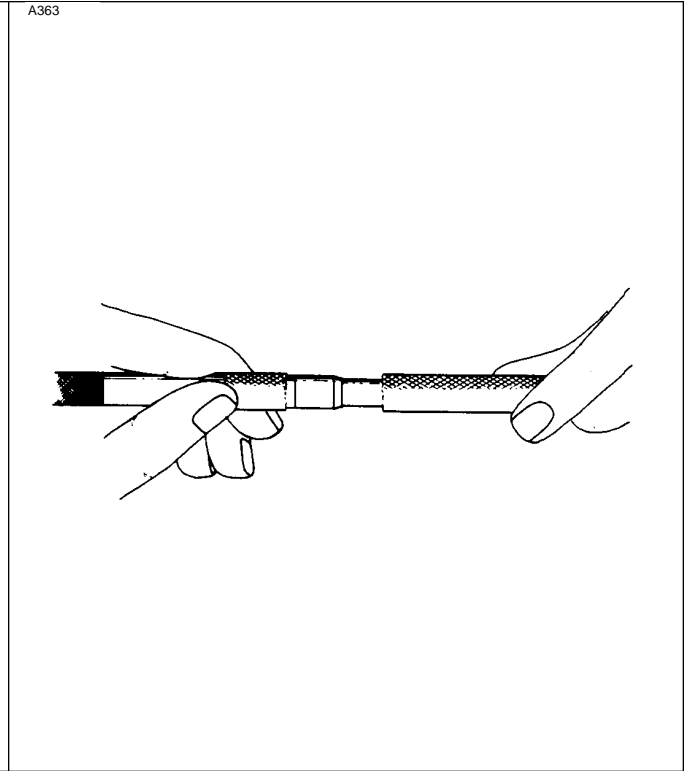

Figure 8-15 Inserting Stripping Tool
- d. Make sure the stripping tool is inserted past the cutting mark, then cut the shielding with a sharp knife using a rolling motion and remove the shielding and stripping tool. Take care not to cut the silicone insulation. Refer to Figure 8-15.